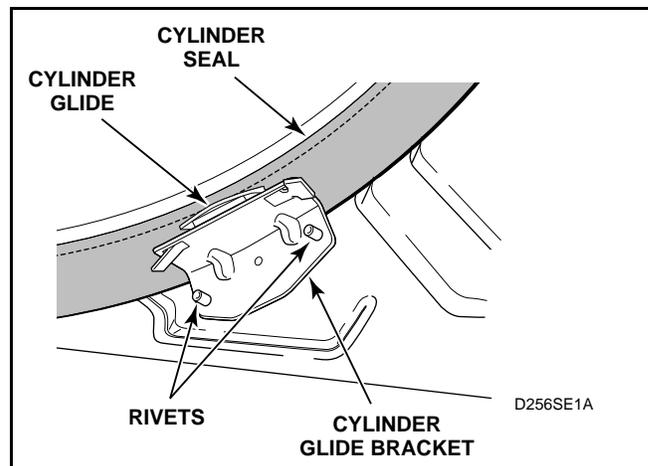

Figure 27
- h. Cylinder Glides and Glide Bracket. See *Figure 27*.